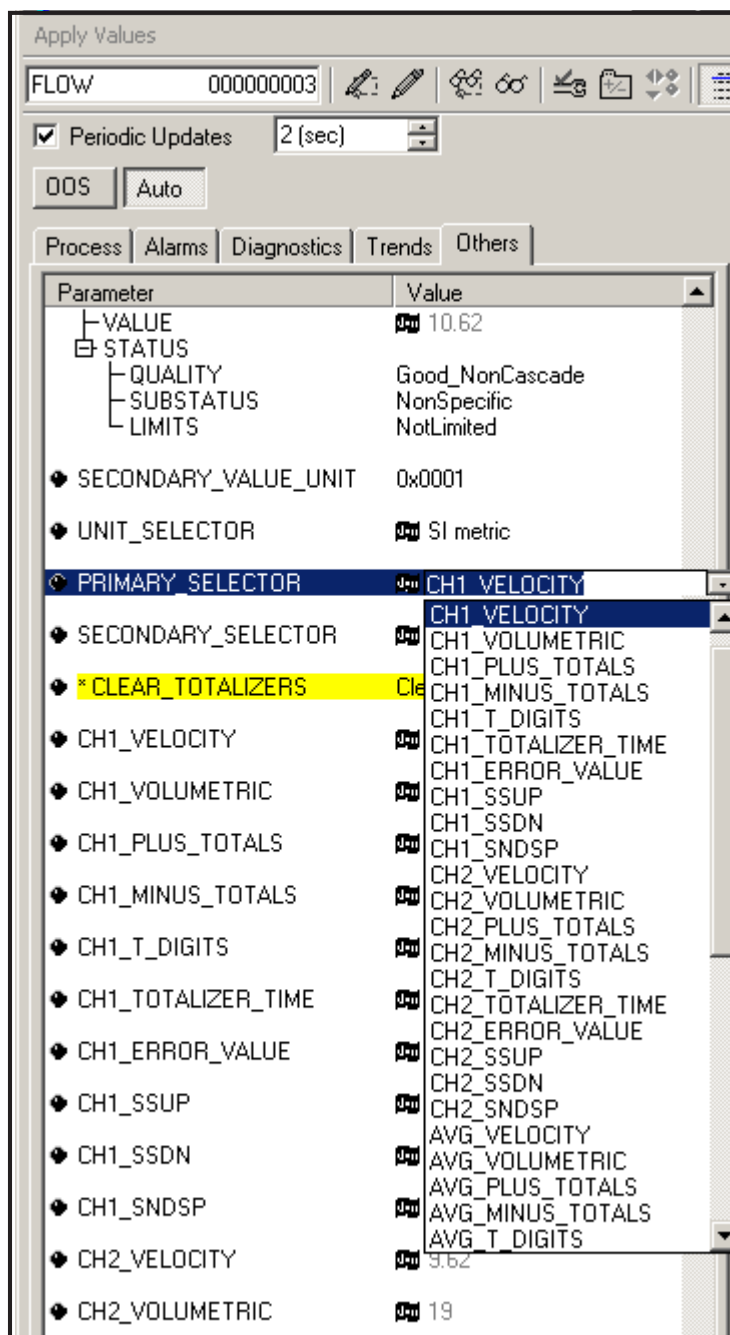

Figure 57: Primary Selector Drop Down List
2. Select the **Others** tab and open the drop down list for the PRIMARY\_SELECTOR and SECONDARY\_SELECTOR (refer to Figure 57 on page 135).
3. Choose the unit from the list (see Figure 57 on page 135).